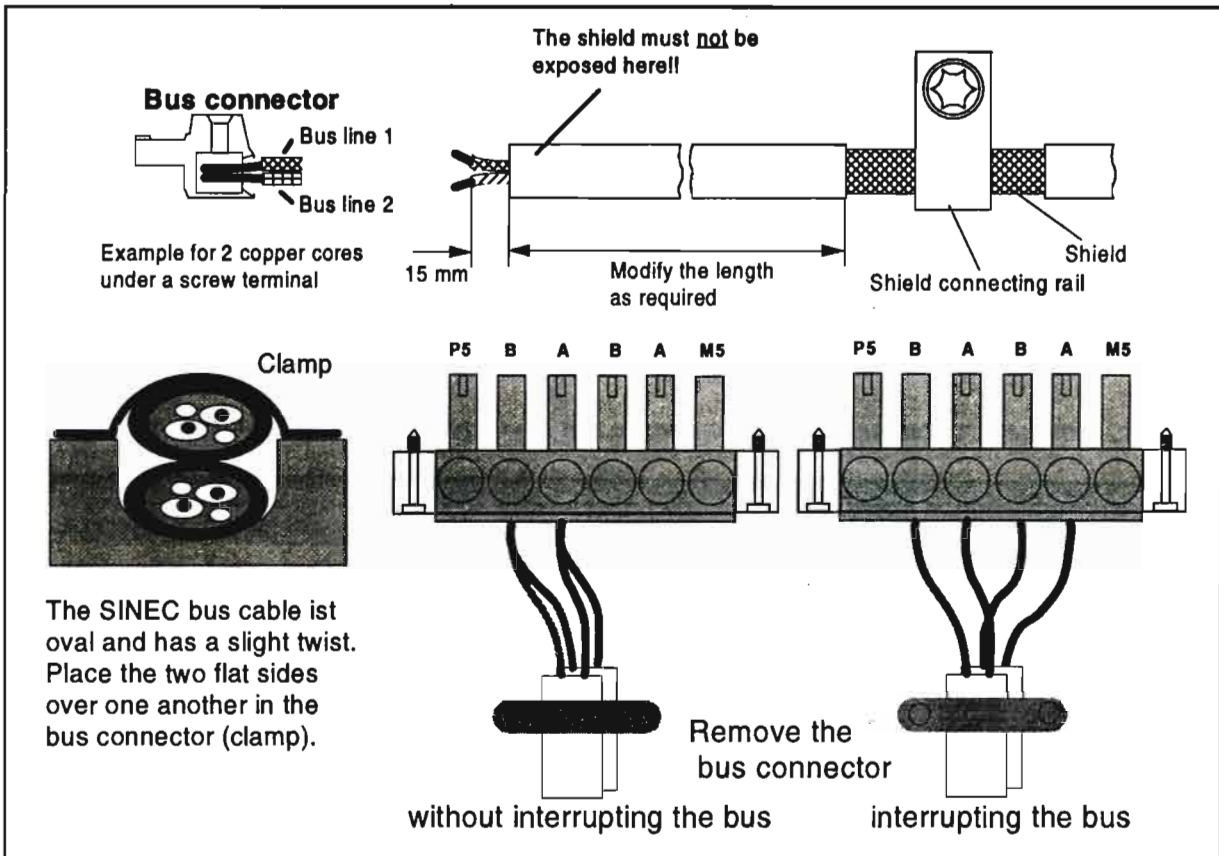

Fig. 3-2 Connecting-up the bus cables
- For the SINEC-L2 bus cable, the shield in the **CB24** bus connector need not be exposed (Fig. 3-2). The shield is connected through clamps at the shield retaining bar in the drive converter housing. When removing the insulation from the conductor ends, ensure that the solid copper core is not damaged.